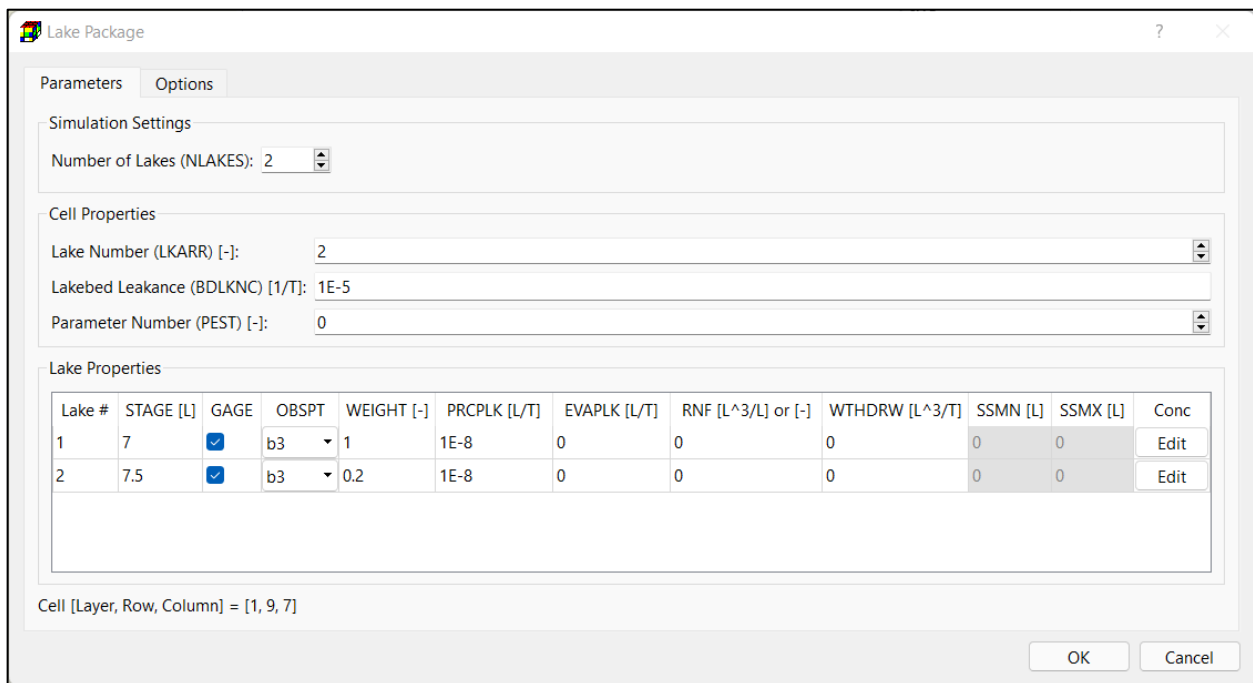

Figure 63. The Lake Package dialog box
1. **Cell-by-cell input method:** Figure 63 shows the dialog box for specifying cell properties.